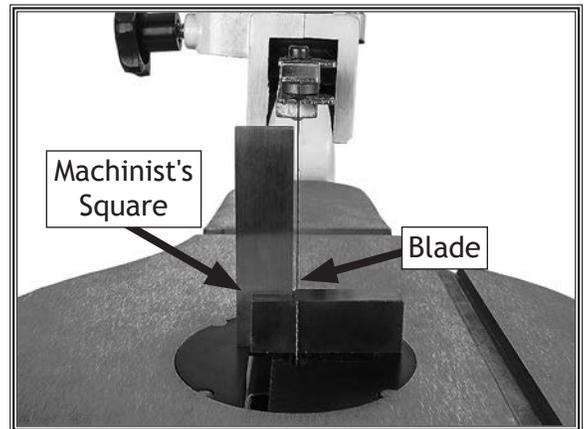

Figure 36. Squaring table to blade.
4. Place machinist's square behind blade, as shown in **Figure 36**.